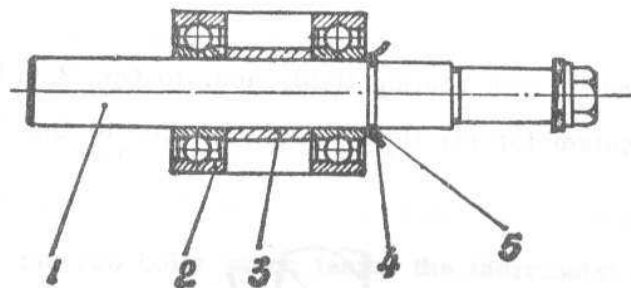

Fig. 4.22. WATER PUMP SHAFT
- Draw out the shaft, together with both bearings (see fig. 4.22), from the pump housing.
- Press inner bearing on the shaft, up to water deflector (5) (fig. 4.22).